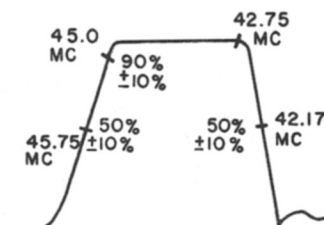
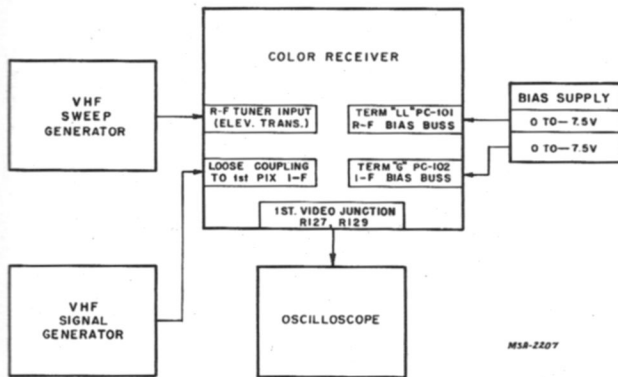
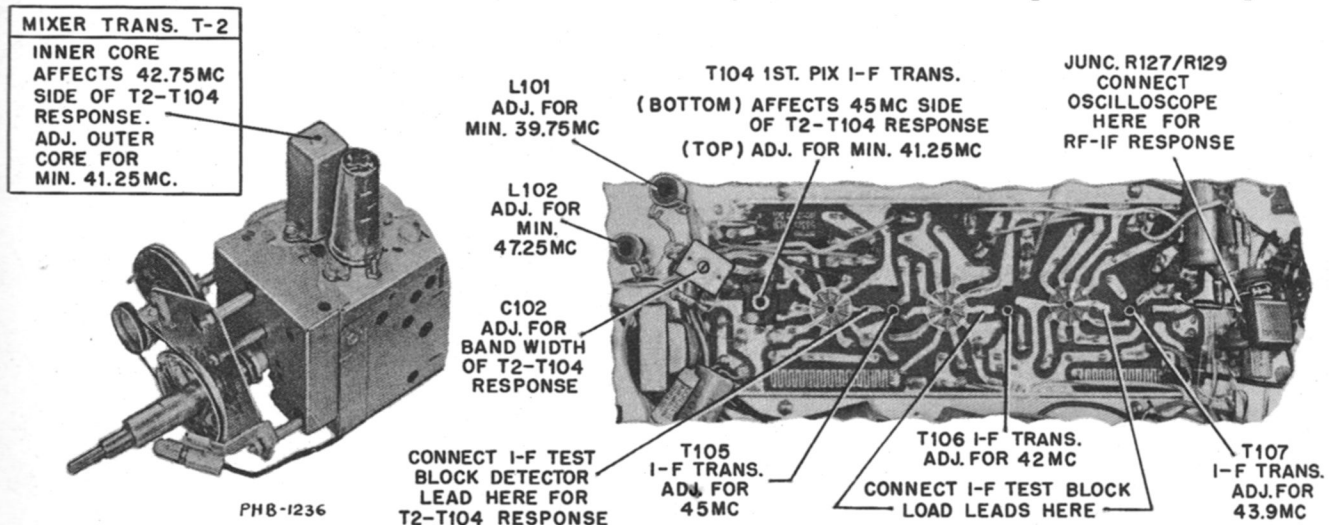
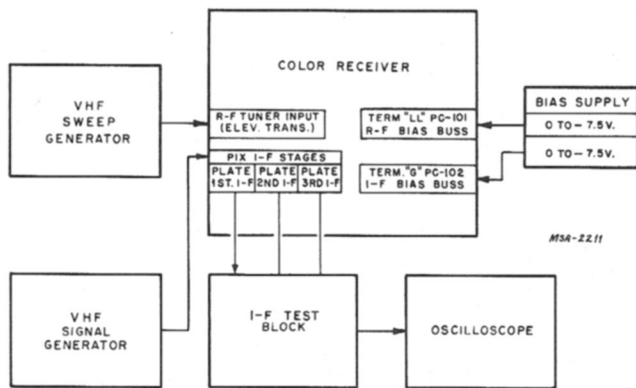

Fig. 163—Picture R-F—I-F, Overall Response
Fig. 164—R-F — I-F Sweep Alignment Test Set-Up
Fig. 165—Overall R-F — I-F Alignment Adjustments
Fig. 170—Block Diagram T-2—T-104 Alignment Equipment Set-up.
In most instances the alignment of a television receiver involves only a small amount of re-tuning. It therefore may be considered good practice to check the overall R-F—I-F response at the picture detector before proceeding with more individualized steps in the alignment of these circuits. The proper overall R-F—I-F response, see figure 163, can usually be obtained by adjusting the picture I-F transformers T-105, T-106 and T-107. See figure 165. To accomplish this, set-up the test equipment as shown in the block diagram, figure 164.
2. Clip the output cable of the VHF signal generator over the insulation of the blue or yellow wire at the point where they pass T-104, the first picture I-F transformer, see figure 165.
5. Connect an oscilloscope, using a direct probe, to the junction of R-127/R-129, located at the end of the picture I-F strip, refer to figure 165.
10. Reduce the output of the sweep generator to produce an 8 volt peak-to-peak response curve on the oscilloscope. The response curve should be similar to that shown in figure 163. If it is not, adjust T-105, T-106 and T-107, picture I-F transformers, to make it conform. T-105 affects the picture carrier slope, T-106 affects the color subcarrier slope and T-107 affects the tilt.
17. Re-connect the oscilloscope to the junction of R-127/R-129 and check the overall R-F—I-F response curve. If a response curve similar to that shown in figure 163 cannot be obtained by retouching T-105, T-106 and T-107, check the T-2—T-104 response as outlined in steps 18, 19 and 20.
18. Connect the detector lead of the I-F test block (see figures 170 and 171) to Pin 1, V-107A, the 1st pix I-F amplifier plate, and connect one of the load leads to Pin 1, V-108A, the 2nd pix I-F amplifier plate, refer to figure 165.